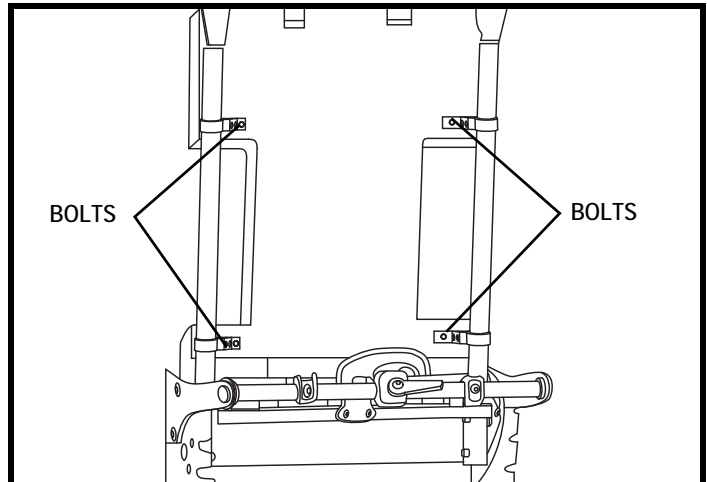

Figure 31. Kids ROCK 2 and ROCK 3 Back Height Adjustment
1. Loosen the bolts on the four (4) back cane clamps, using 7/16-in. hex wrench. **See figure 31.**